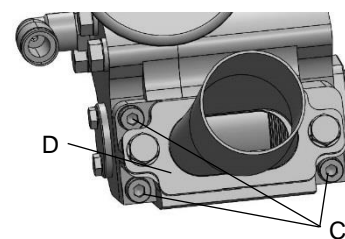

Fig. 7.2 – Suction bracket
- 1) Loosen the screws (C) and remove the suction bracket (D), see Fig. 7.2.